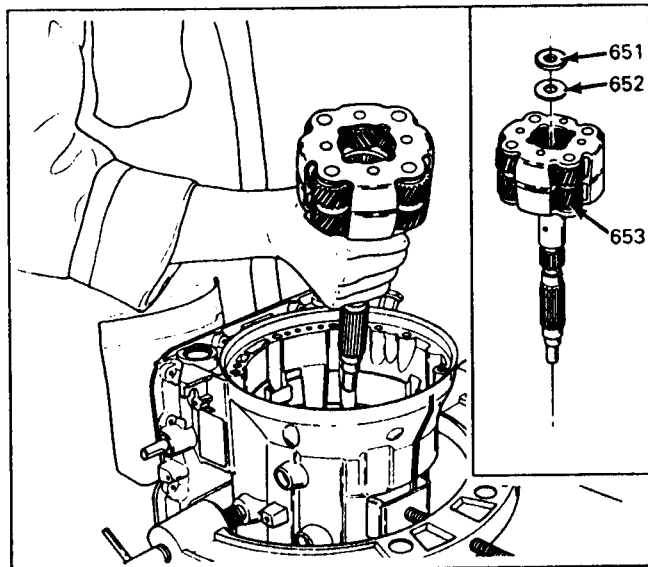

Figure 46
17. Remove the planetary carrier by pushing up on the output shaft with one hand and grasping the carrier with the other (See Figure 46).
18. Thrust bearing and race will remain in the carrier (See Figure 46).